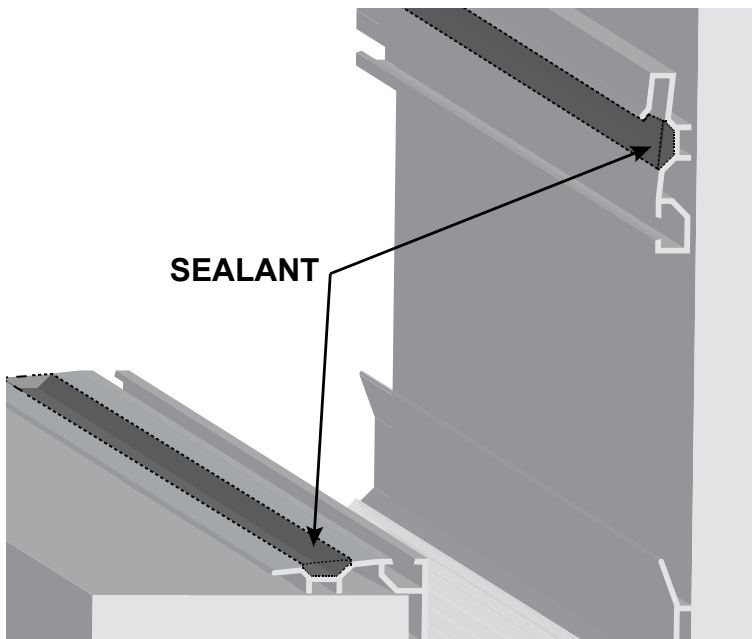

Figure 9—RW Face Seal Sealant Application
3. Add a continuous bead of sealant into the recess in all base members (Figure 9).